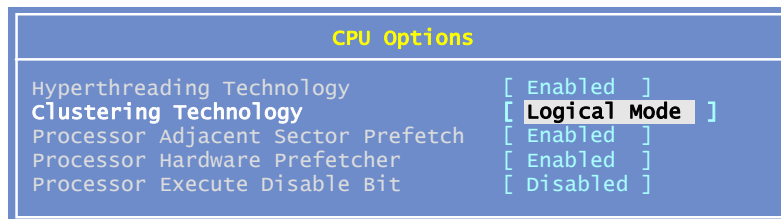

Figure 3-1 CPU options in BIOS
3. Select **CPU Options**. Figure 3-1 appears.